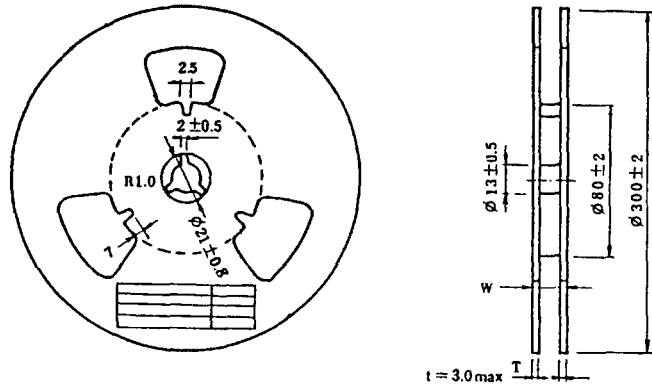

Fig. 6-9 Reel for embossed taping
(3) Seal tape dimensions
(4) Reel shape and dimensions (Fig. 6-9)